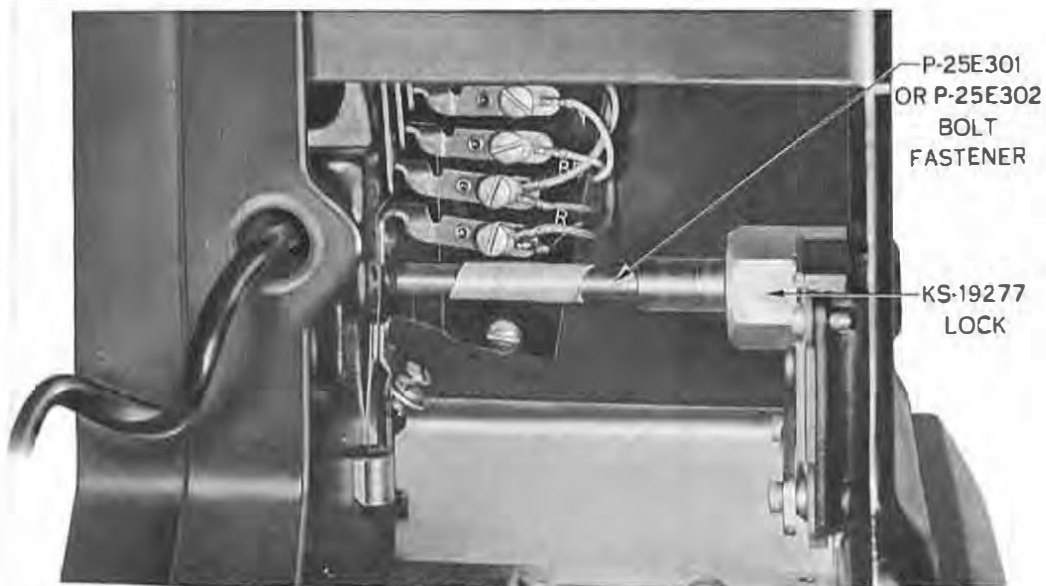

Fig. 3 — Cutaway Section of Upper Housing, KS-19277 Lock and Associated Parts, Completely Installed
5.07 The new 233- and 234-type collectors and the 200-type C stock collectors are equipped with the KS-19277 lock and P-25E301 bolt fastener (Fig. 3).